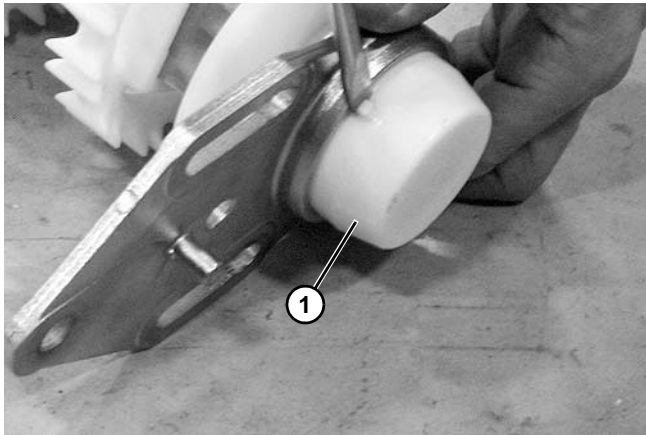

Figure 59
5. Remove bearing cover (Figure 59, item 1).